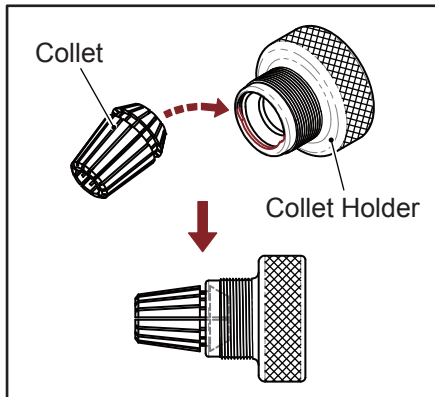

Fig. 6-1
2. Put the collet into collet holder by 45° angle. (Fig. 6-1)